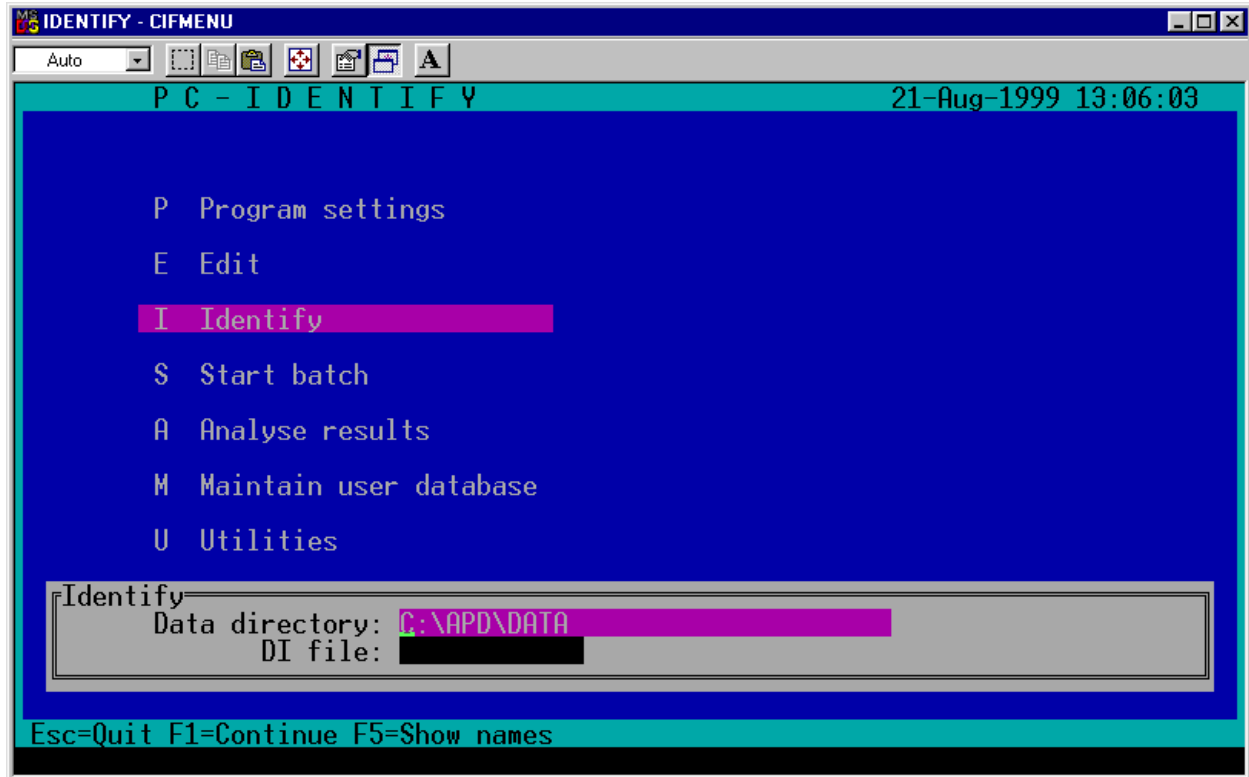

Figure 4
24. Choose IDENTIFY (I) and press F1 or ENTER. You will be prompted with a highlighted entry box as indicated in Figure 4.